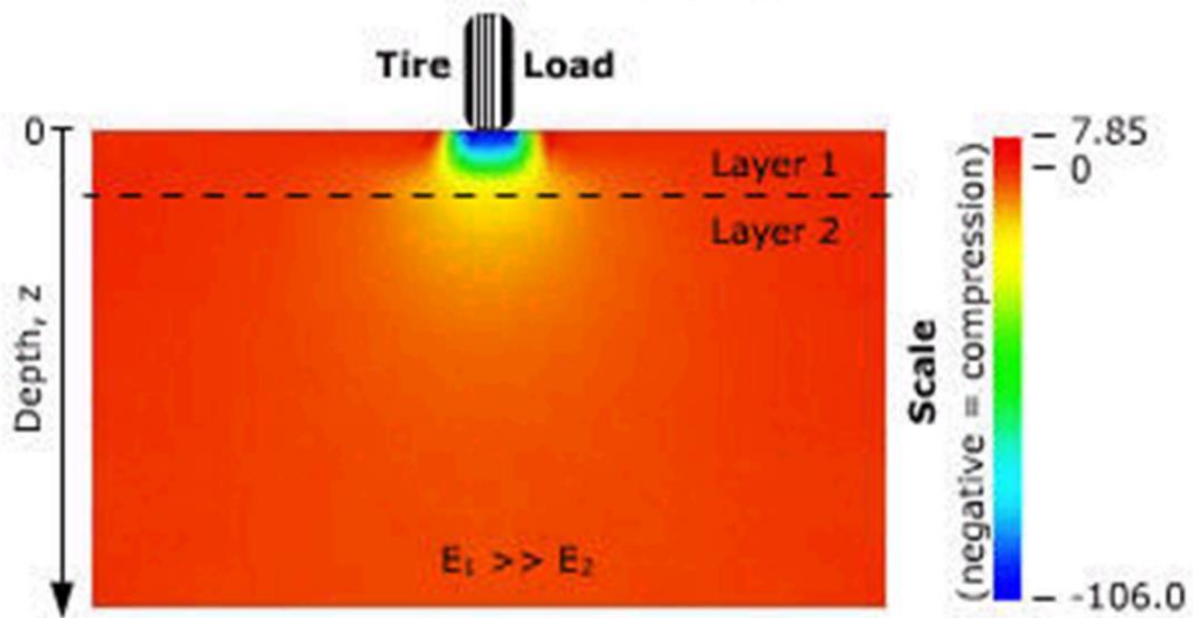

Figure. 1
**Q. NO. (01)**
1. Given **Figure. 1** refers to which phenomena of the pavement conditions?
**“In Figure.1 the Pavement is in Failure Condition”**